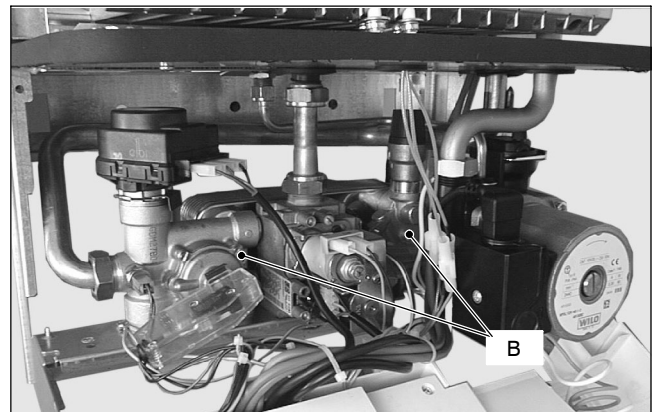

Fig. 3
- 4 Completely unscrew the two Allen key screws *B* (Fig. 3) which hold the exchanger to the brass groups.